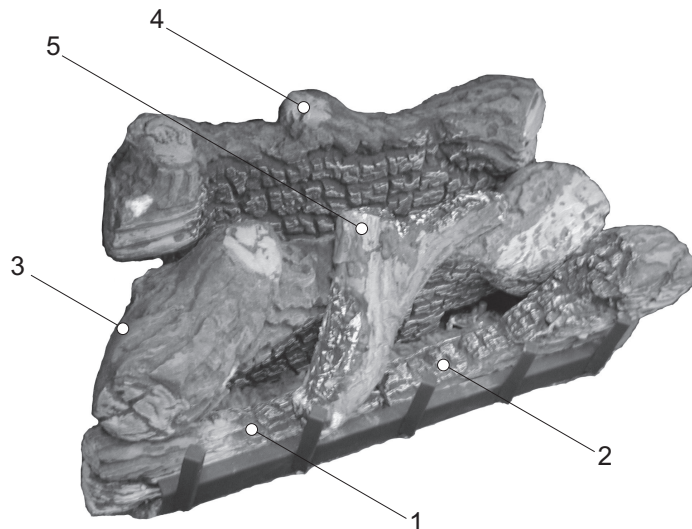
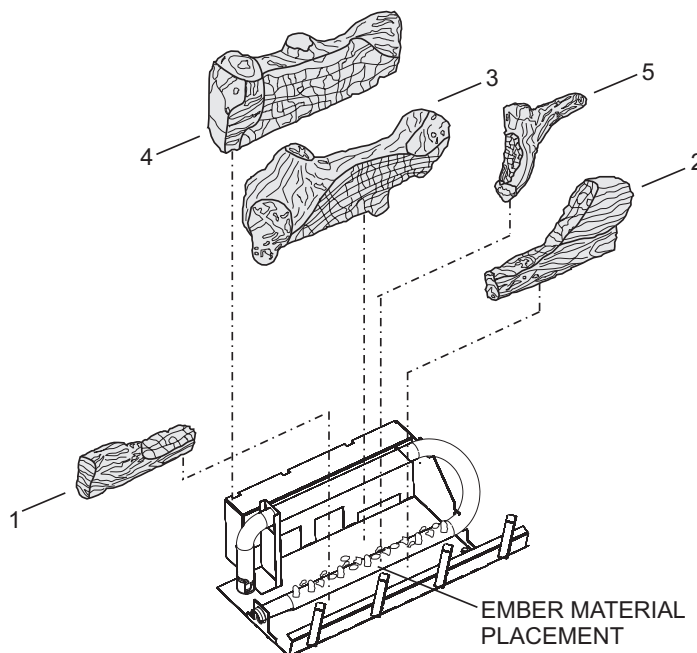

Figure 54
Figure 55
The positioning of the logs is critical to the safe and clean operation of this fireplace. Sooting and other problems may result if the logs are not properly and firmly positioned in the fireplace. Please refer to **Figure 54** and **Figure 55** and corresponding WARNING when completing following log placement instructions.
10. After all logs are positioned properly, apply Rockwool ember material to the front burner port area. To apply, carefully separate the ember material into small amounts no larger than "dime size" pieces. Fluffed up pieces one layer thick on top of the burner generally works best, and will provide the best ember glow. Do not place ember material more than one layer thick. No more than (1) small packet of ember material (part no. 15999) evenly placed on the burner, is recommended on DVD32 and DVD36 models. Using additional ember material will decrease the amount of ember glow effect. Extra ember material should be saved for future ember applications as necessary. See Figure 55.
Attention: Do not use Figure 54 or Figure 55 to order logs. Refer to parts list on page 49 and parts view on page 50 to order logs and/or ember material for your appropriate fireplace model.